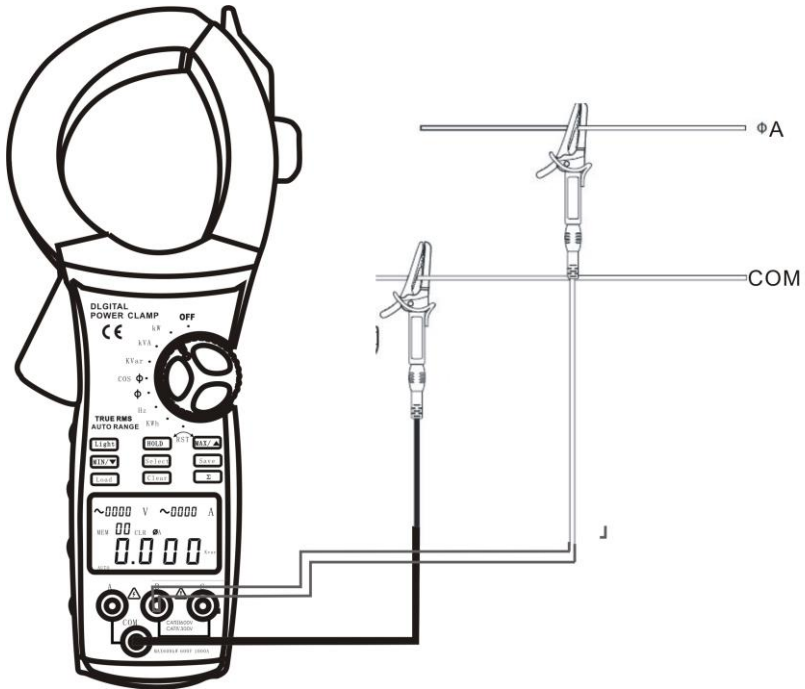

figure 8
- When measuring single phase 2 wires, connect the Meter as figure 8